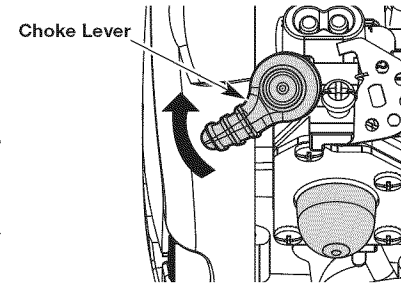

Fig. 8
4. Flip the choke lever clockwise until it clicks (Fig. 8).